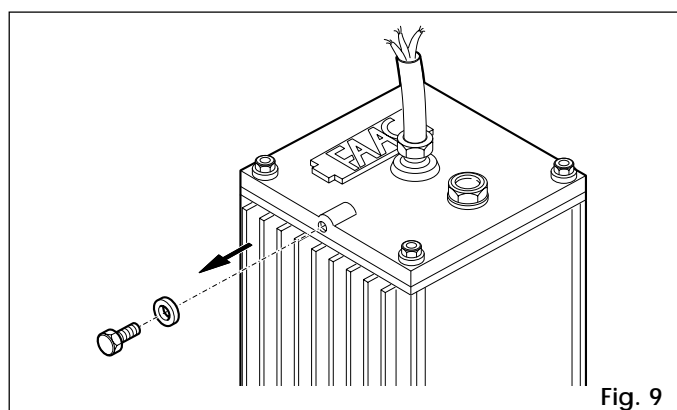

Fig. 9
- 3) **Remove the two breather screws as shown in Figure 9 and keep them in a safe place.**